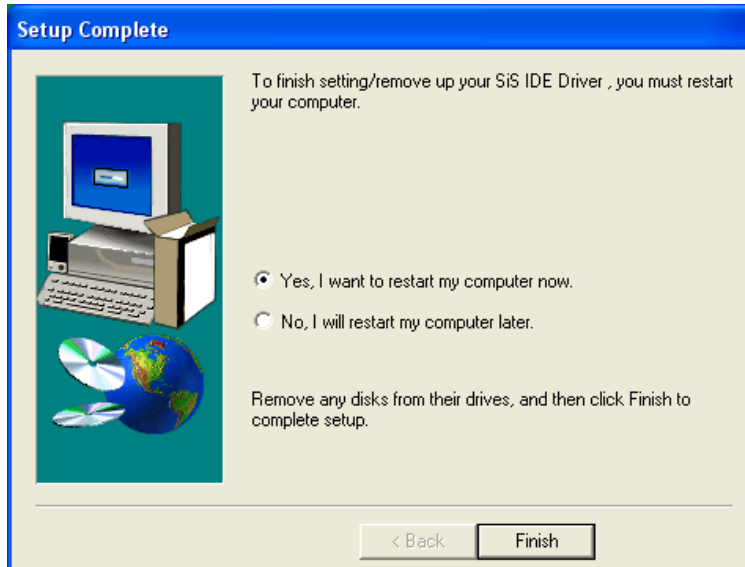

Figure 7-24: IDE Driver Installation Complete
Step 13: The installation complete screen in **Figure 7-24** appears.